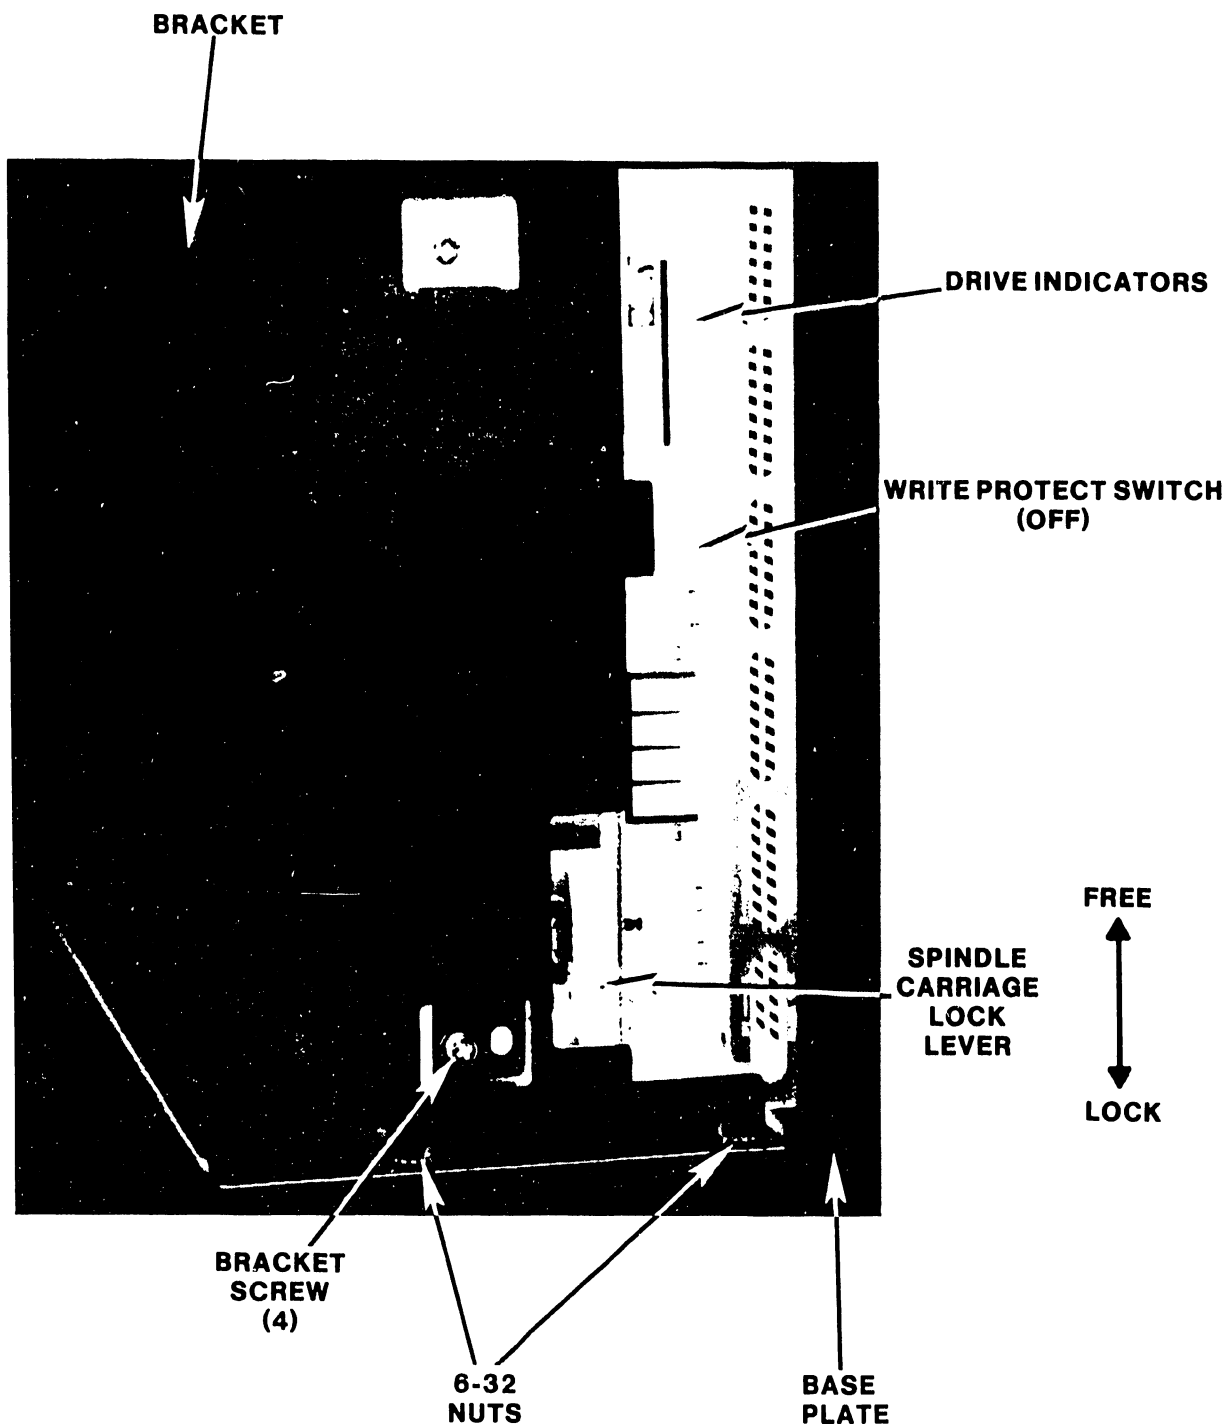

Figure C4-2 76-Megabyte Disk Drive Bracket Removal
4. Lock drive spindle carriage (figure C4-2) by moving lever to the right, moving it down as far as it will go, and then moving it to the left (LOCK position).
10. Remove bracket (figure C4-2) by removing four bracket screws. Save for use later.
4. Install new bracket (figure C4-2). Secure using four bracket screws removed in previous step; or use new screws.
5. Install base plate and secure with four 6-32 nuts (figure C4-2).
17. Unlock drive spindle carriage (figure C4-2) by moving lever to the right, moving it up as far as it will go, and then moving it to the left (FREE position).
9. Remove four 4-40 bracket mounting screws (figure C4-2).